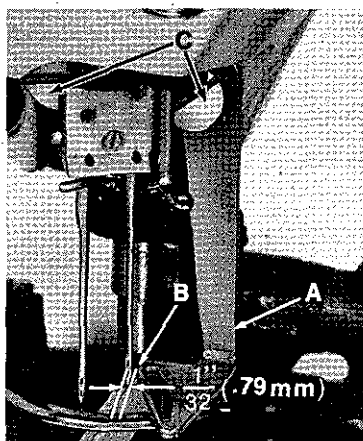

FIGURE 20
Stationary spreader thread guide (A, Fig. 20) should be located approximately $\frac{1}{32}$ inch (.79 mm) from right needle at point (B). Adjustment is made by loosening screws (C) and moving the guide as required. Retighten screws securely after adjustment.